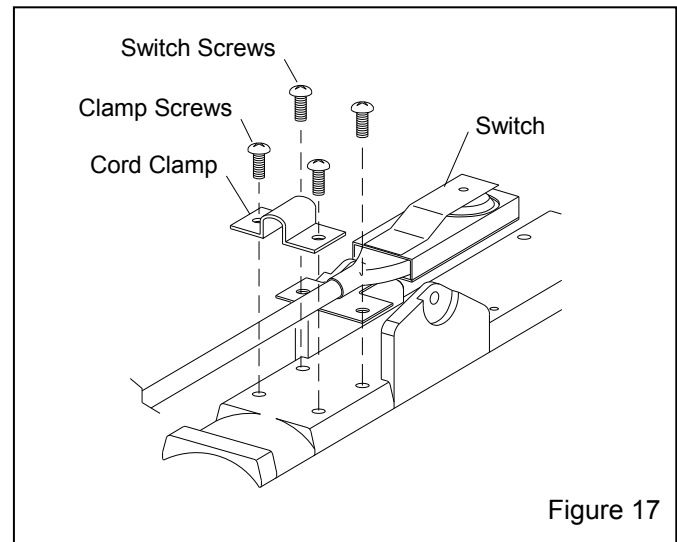

Figure 17
4.7.3.2 Remove screws holding the switch and cord clamp as shown in Figure 17 and remove the switch.